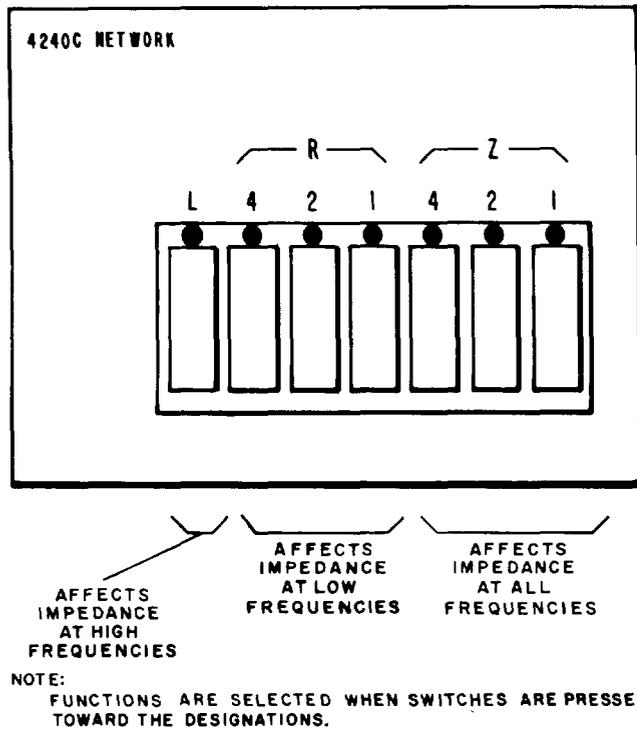

Fig. 5—Control Switches of the J99343PH, L1 PBN
2.11 The controls for the J99343PH, L1, PBN are illustrated in Fig. 5. This figure shows the